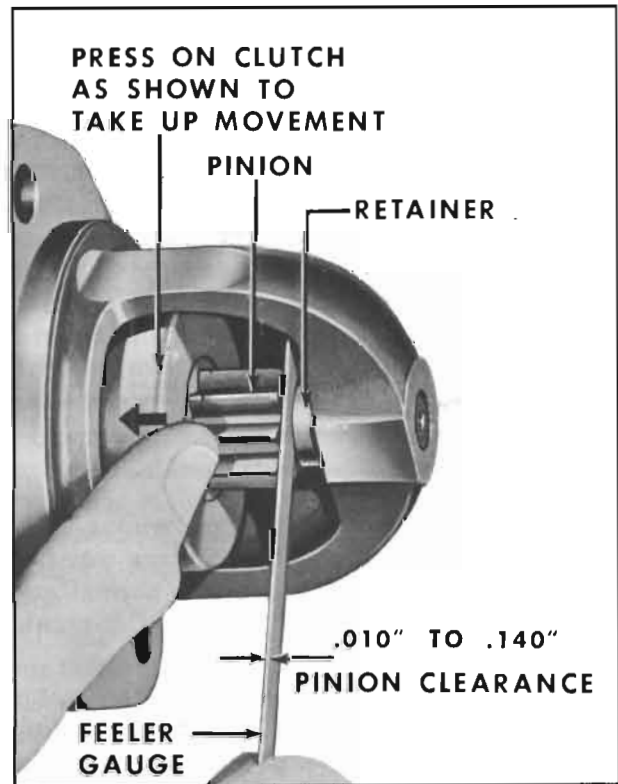

Figure 10-33—Checking Pinion Clearance
2. After energizing the solenoid, push the pinion away from the stop retainer as far as possible and use feeler gauge to check clearance between pinion and retainer. See Figure 10-33.